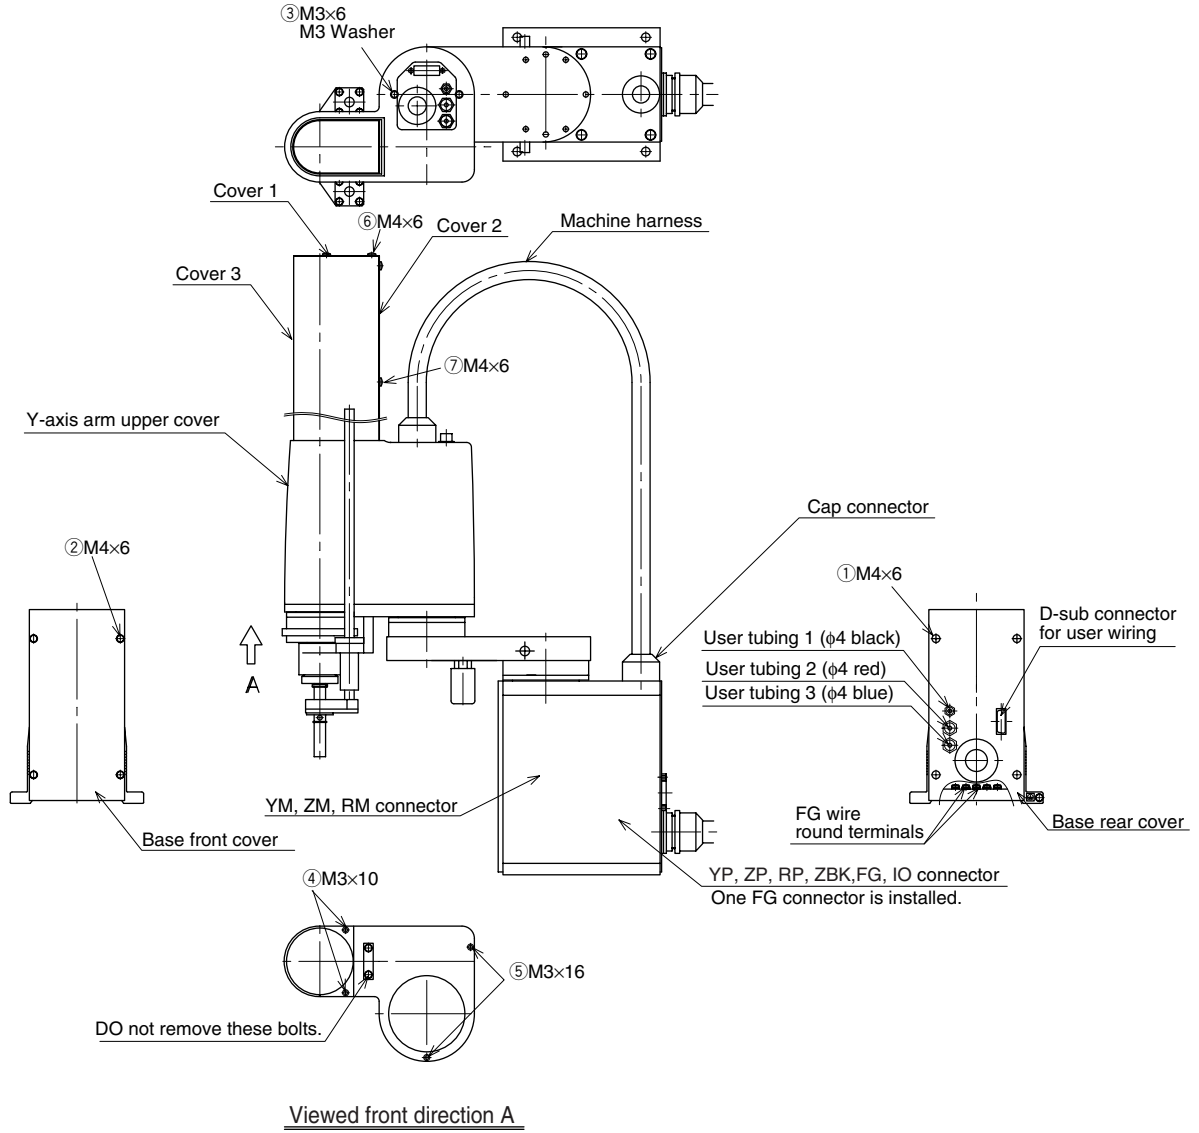

Fig. 3-3
- 5) Remove the particular covers while referring to Figs. 3-3 to 3-5. The screws used to attach each cover are shown in Tables 3-2 to 3-4. (When using maximum Z stroke specs.)
Table 3-2 YK250X, YK350X, YK400X (See Fig 3-3.)
While referring to Fig. 3-3, remove the Y-axis upper cover as follows.